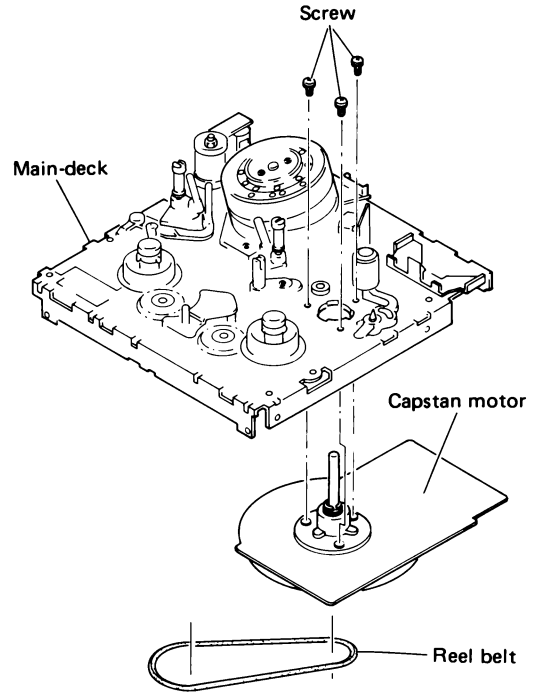

Fig. 2-10 Capstan motor replacement
2.3.5 Capstan Motor (See Figure 2-10.)